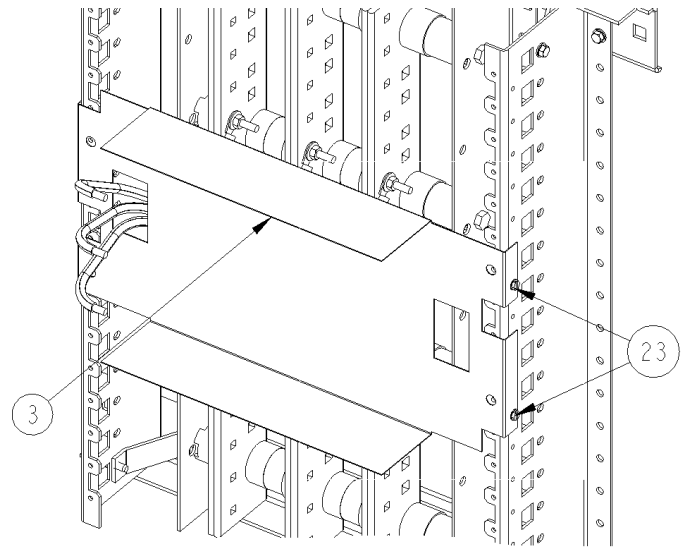

Figure 7. Barrier installation.
3. Install barrier. Route the cable assemblies through the rectangular holes in the barrier [3]. Secure the barrier to the side of the “Z” rail with 10-32 x 7/16” thread-forming screws [23], as shown in Figure 7 and tighten to 22 in-lb.